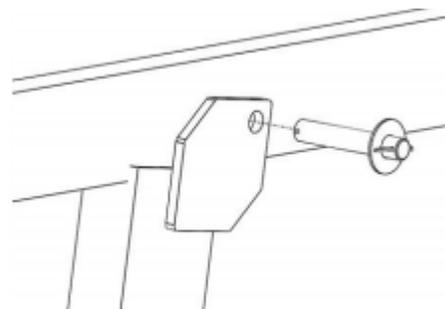

Figure 15
2. Insert one (1) 1/8" Cotter Pin into one (1) 1" Hinge Pin, bending the tines of the Cotter Pin outward and apart, securing the Cotter Pin within the Hinge Pin.
4. Insert the Hinge Pin through the hinge plate as shown in Figure 15.
5. Insert one (1) Flat Washer and one (1) 1/8" Cotter Pin into the protruding end of the Hinge Pin, bending the tines of the Cotter Pin outward and apart, securing the Cotter Pin within the Hinge Pin.
6. Repeat this step five (5) more times, twice for the other H-Frames and three times for the other V-Bunk Support.
4. Insert a Lollipop Washer between the Bunk and the H-Frame on both sides as shown in Figure 15 before fully inserting the Hinge Pin through the H-Frame and out of the opposite side of the Bunk.
6. Repeat this step three (3) more times, once for the opposite end of the Bunk, and twice for the second Bunk.